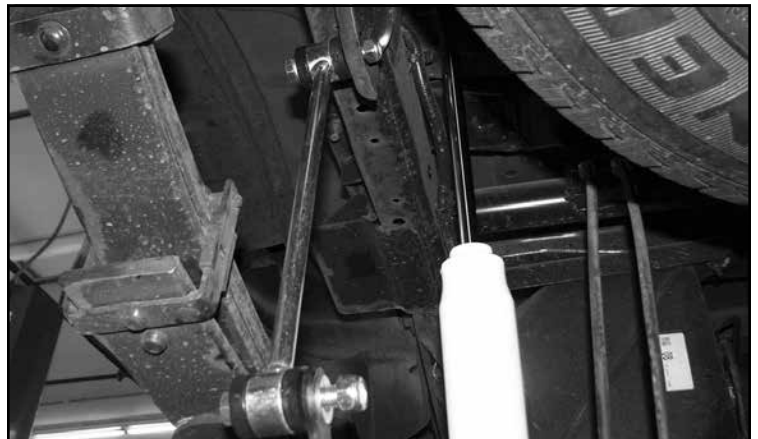

FIGURE 75 - STEP 59
59. Locate and install FT1004 (bushings) and FT404739 (sleeves) into the FT1599-2-4 (End links). Install the new end links to the frame and sway bar using the supplied M12 hardware. **SEE FIGURE 75.** Torque to 100 ft-lbs